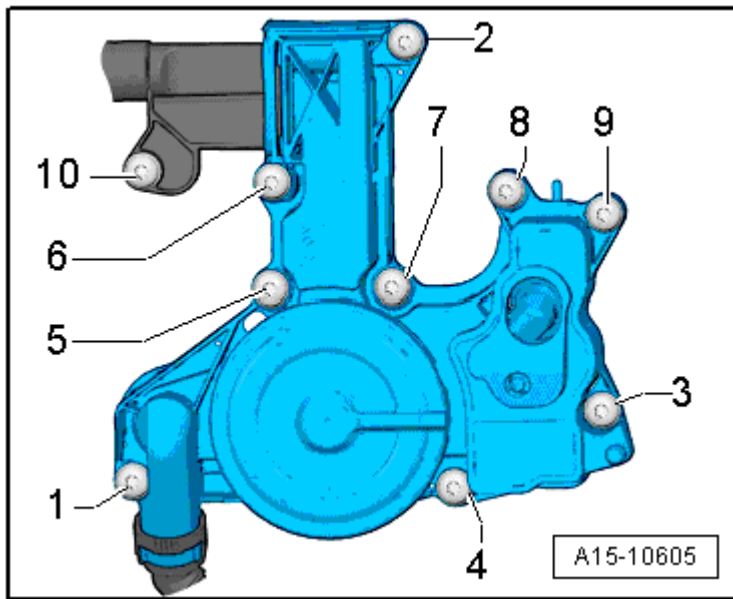

Fig. 2: Identifying Crankcase Ventilation - Tightening Sequence
- Tightening sequence, refer to **Fig. 2**.
- Observe the sequence for tightening, refer to **Fig. 2**.